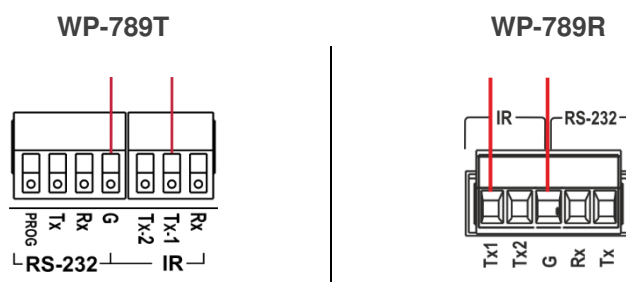

Figure 9: Connecting 38kHz IR Emitter – 38kHz
- Connect the emitter wires to the **WP-789T** or **WP-789R** IR terminal block as illustrated in \(Figure 9\).